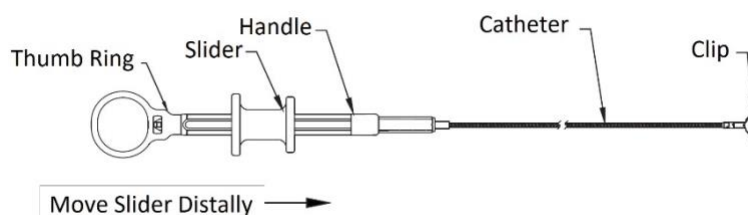

Figure 3
5. When the clip is at the desired location, gently move the slider away from the thumb ring to open the clip jaws, as shown in **Figure 3**.